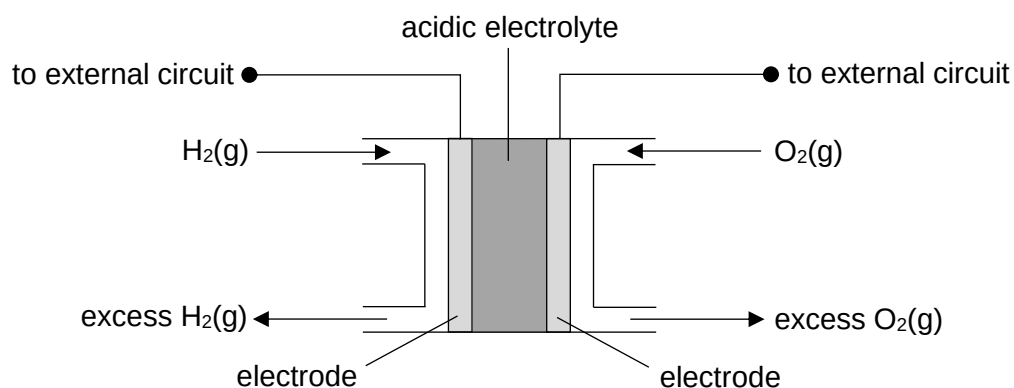

Fig. 5.1
- (b) Fig. 5.1 shows a conventional fuel cell that produces H_2O_2 via a two-electron reduction of oxygen.
- (ii) On Fig. 5.1, label the polarity of each electrode and draw the direction of electron flow when the overall reaction as shown by half-equations 1 and 2 occurs. [2]